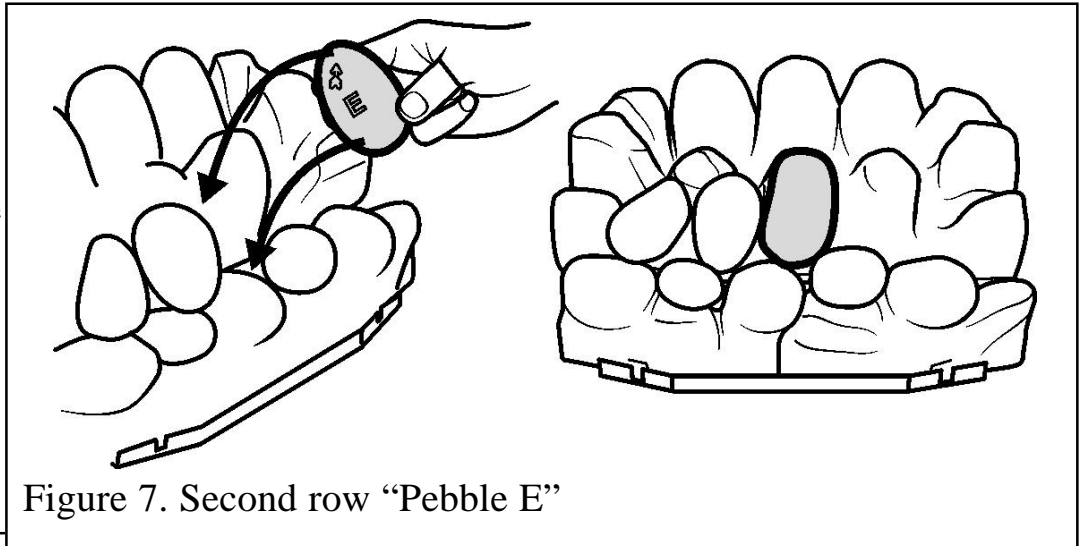

Figure 7. Second row "Pebble E"
9. Hold pebble 'E' upright with the arrow pointing to the top. Locate pebble 'E' as shown in figure 7.